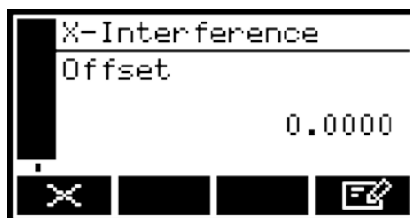

Figure 23 - The X-Interference offset screen
- The X- Interference offset screen is then displayed as shown in Figure 23.